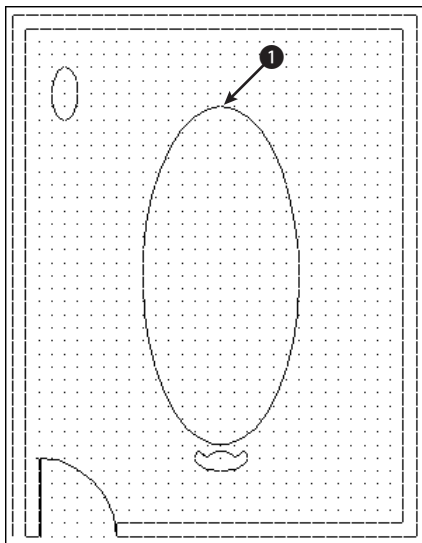

Figure 9-8: The conference room
2. Save the file as `ab09-05.dwg` in your `AutoCAD Bible` folder. This drawing shows a conference room, as shown in Figure 9-8.
9. At the `Specify base point or displacement, or [Multiple]:` prompt, locate the Center object snap to pick the center of the arc that makes up the back of the chair. (Press Tab to cycle through the object snaps if necessary or move the cursor over the arc itself, or its center.) At the `Specify second point of displacement or <use first point as displacement>:` prompt, pick point ❶ in Figure 9-8. This point doesn't have to be exact.